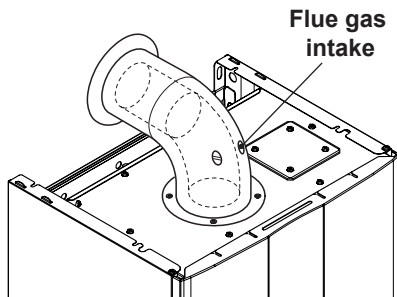

Figure 7.1
- Connect a flue analyser to the flue gas analysis outlets on the flue gas exhaust of the boiler Figure 7.1.